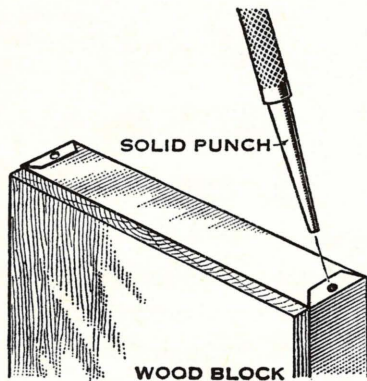

Fig. 120—Punching the holes for riveting the corners of the box
4. Punch holes for rivets in the center of each lap. The box should be placed over the end grain of a piece of hard wood while the holes are being punched. Never try to punch a hole through metal while it is lying on an anvil because the end of the punch will be spoiled. (See Fig. 120.)
5. Rivet the corners. (See Fig. 120.)